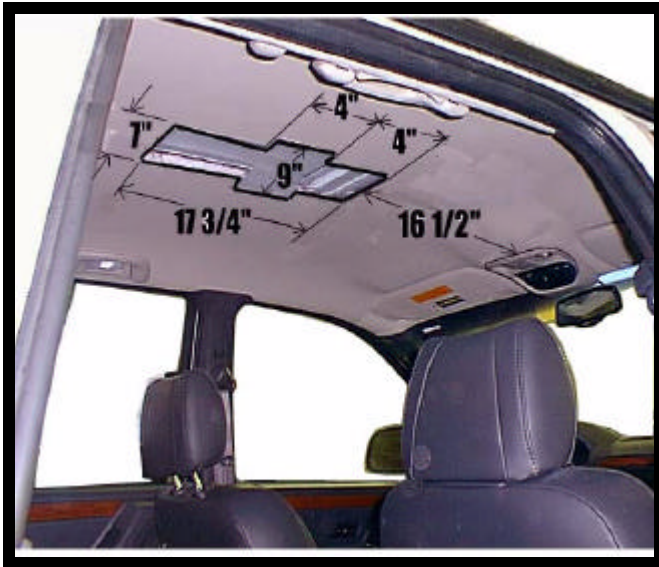

FIGURE 1
1. Using the rear edge of O.E. console as a reference location, carefully measure & trim headliner as shown. Use a razor knife to score the first layer and scissors to cut remaining layers. **Caution: Before cutting headliner material, check for wiring or other componentry above headliner. Cut only where indicated. Wear safety goggles when cutting headliner material.** Make sure that the 9" & 7" cuts are centered left to right in vehicle. See Figure 1.
2. Scribe a center line on the sheet metal roof of the vehicle from front to rear of opening in headliner. This will be used for bracket alignment. See Figure 1.